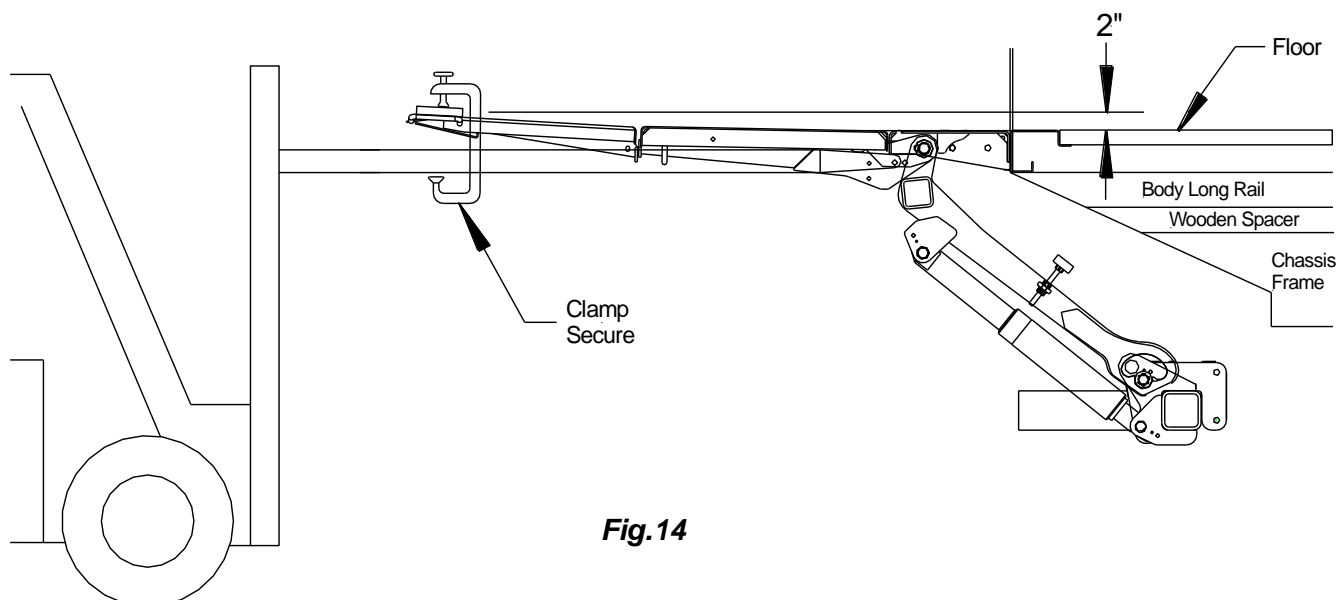
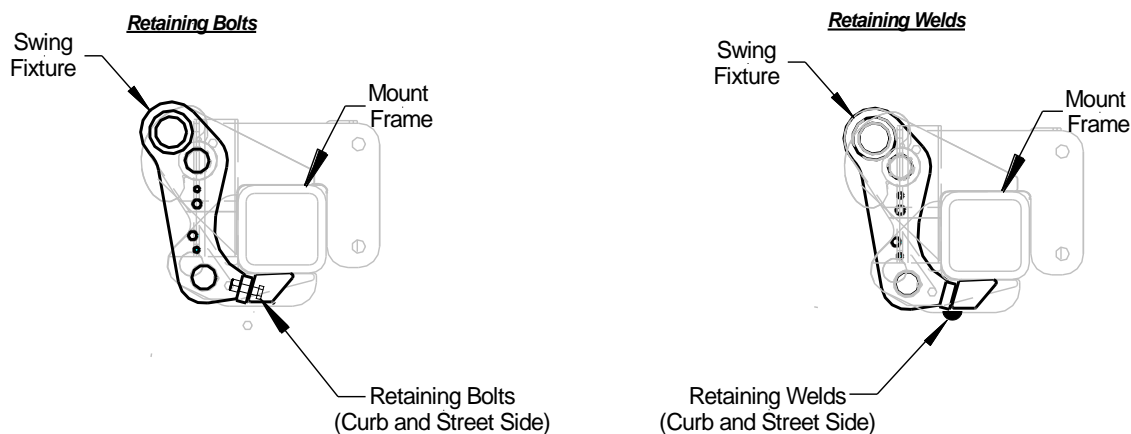

Fig. 14
Fig. 15
1. Hoist Platform: Unfold platform manually and clamp forklift forks, overhead crane or equivalent to platform. Make sure the platform is secured. Always maintain the mount tube centered to the vehicles body. Make sure the tip of the platform is pitched up 2" and the platform is centered to the bed extension, **Fig 14. Important: Verify the retaining bolts or welds, on both sides, are in place securing the mount frame and swing fixture prior to beginning installation, Fig 15.**